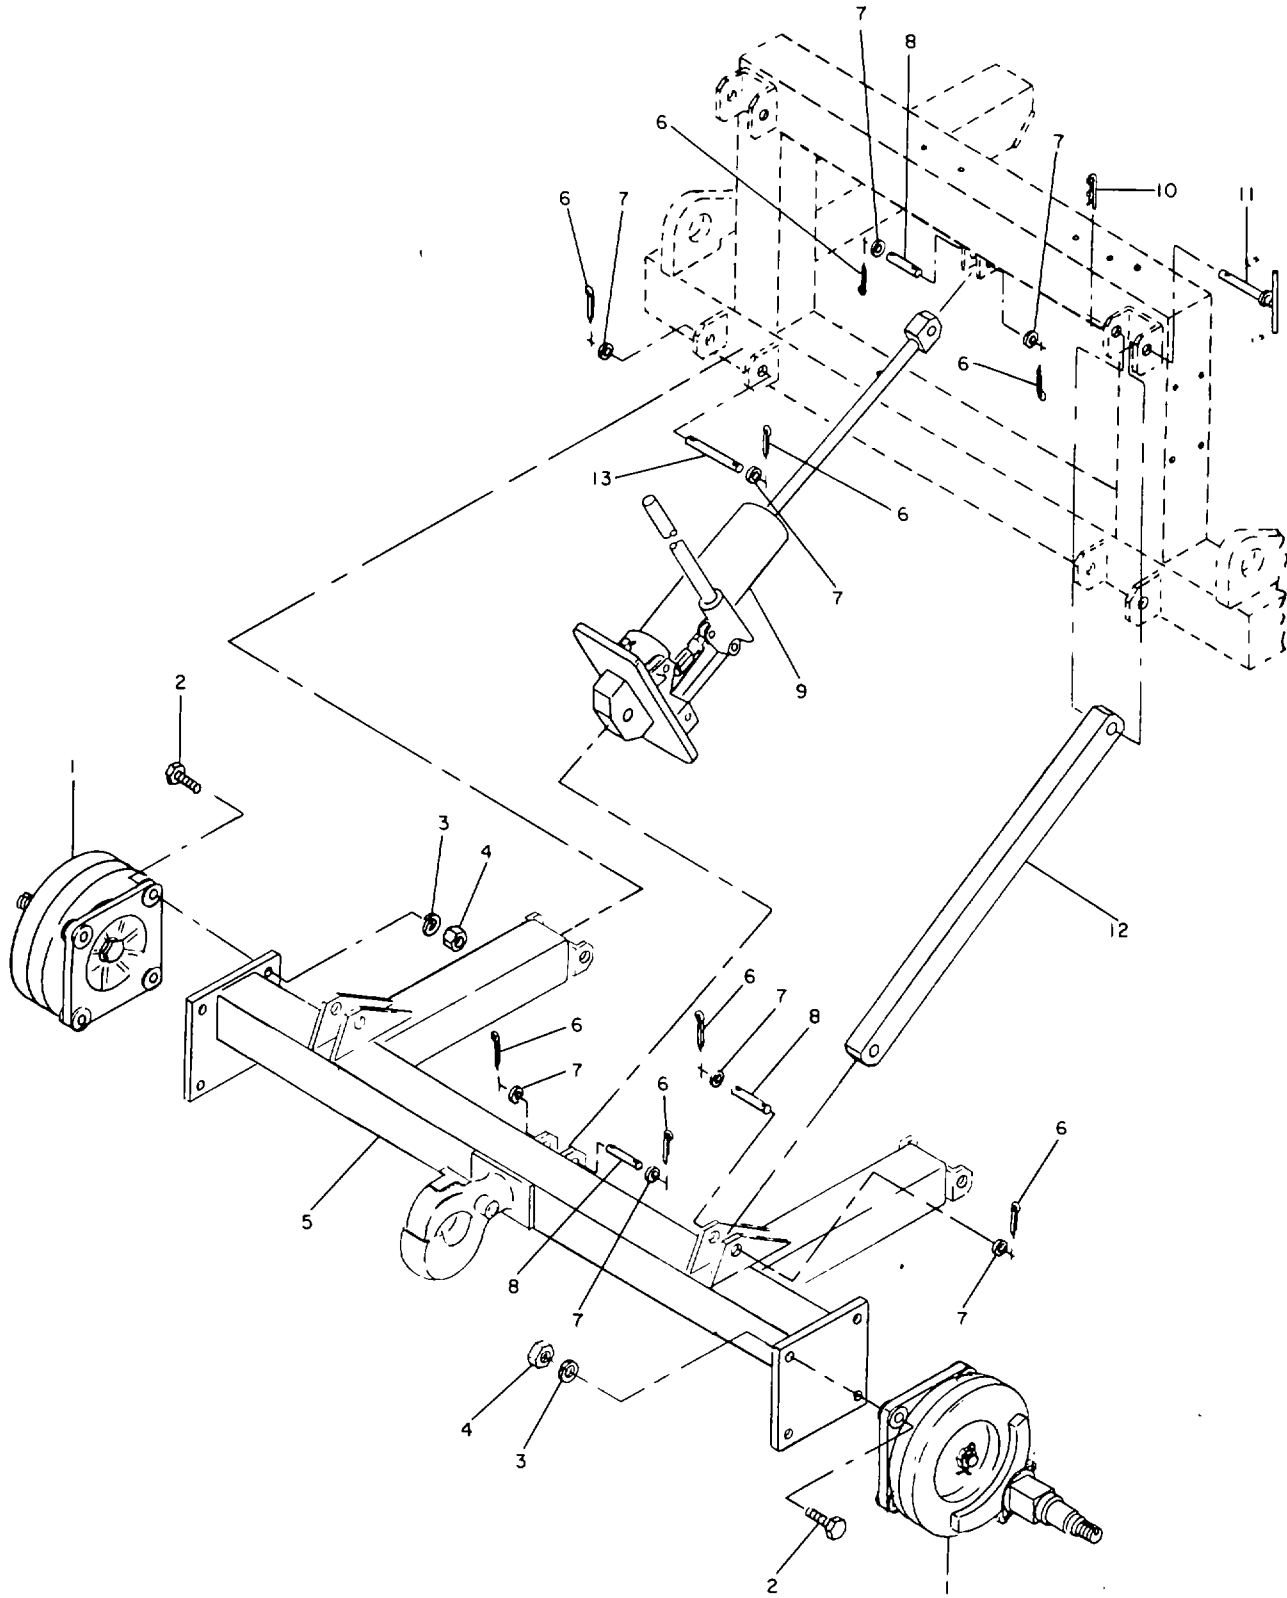
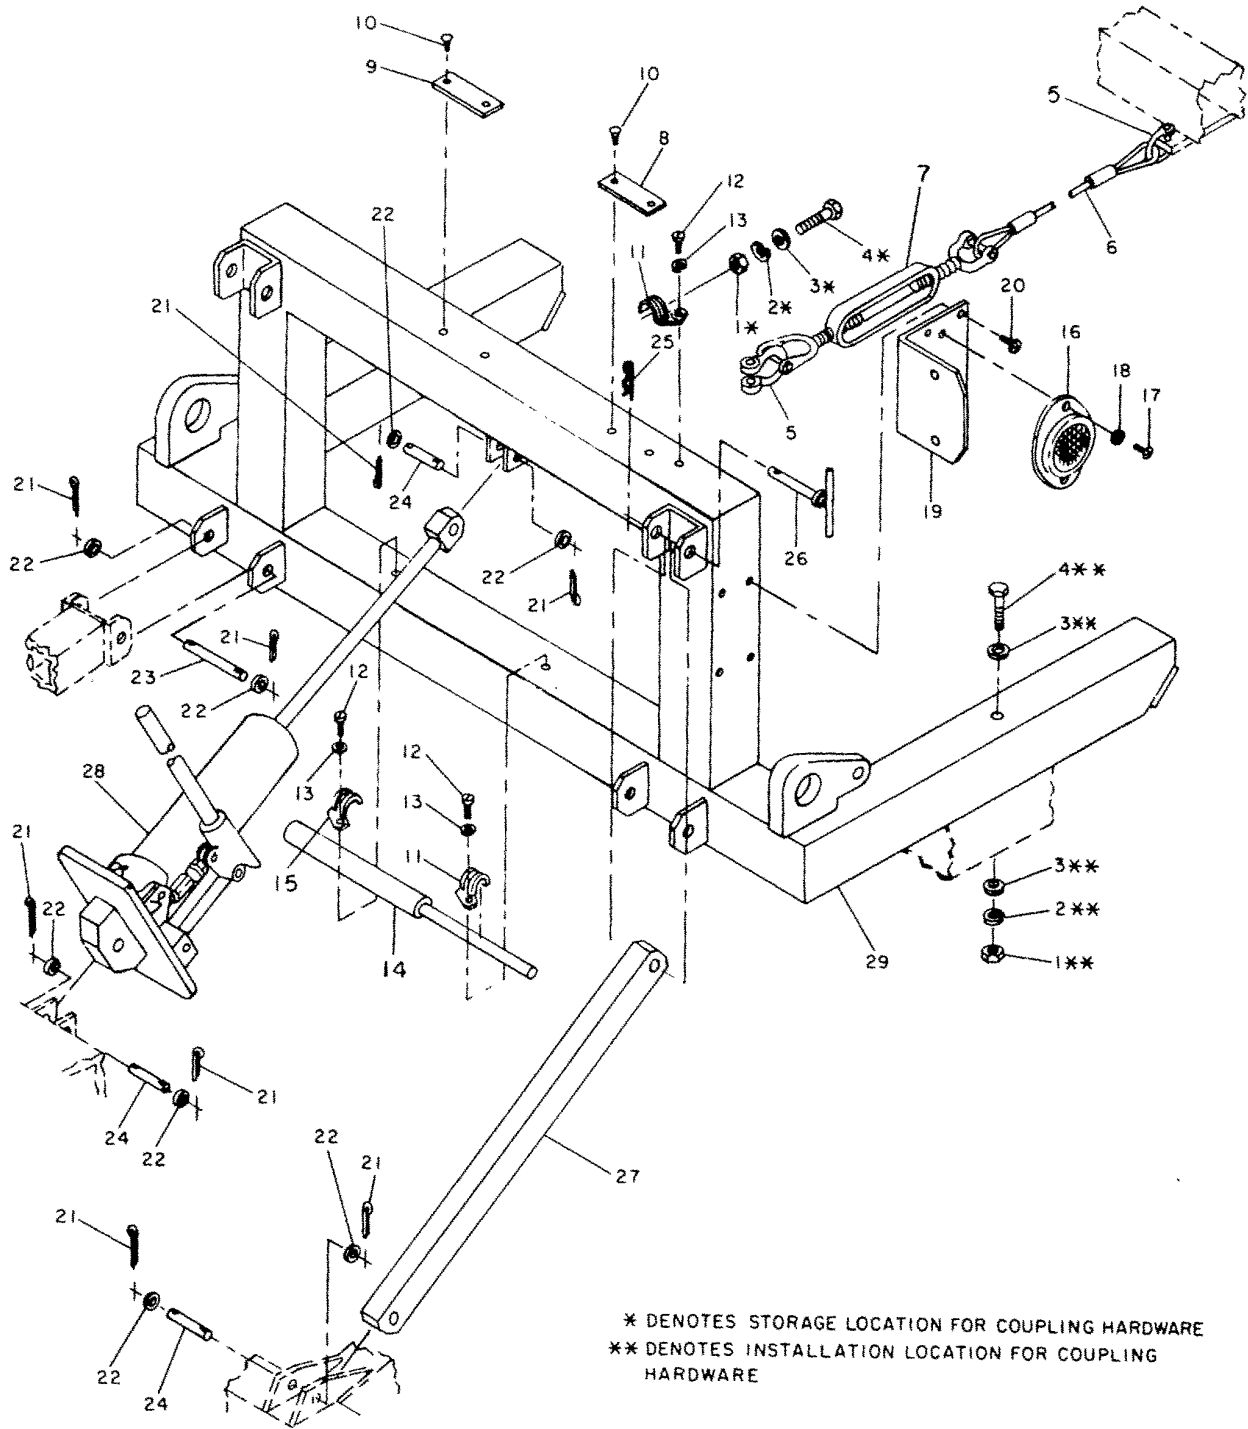

Figure 4-4. Rear axle assembly
Figure 4-6. Transporter Suspension frame
- (1) Remove hex head screws (2, fig 4-4), lockwashers (3), hex nuts (4) and banjo suspension spring assemblies (1).
- (2) Remove cotter pins (6), flat washers (7), straight pins (8), and hydraulic jack (9).
- (3) Remove cotter hairpins (10), lockout strut pins (11), cotter pins (6), flat washers (7), straight pins (8), and lockout struts (12).
- (4) Remove remaining cotter pins (6), remaining flat washers (7), straight pins (13), and transporter suspension frame.
Legend for fig. 4-4:
- (1) Disengage hydraulic jack (28, fig. 4-6) from wheel suspension frame (fig. 4-4 or 4-9) and transporter suspension frame (29, fig. 4-6) by removing cotter pin (21) and flat washer (22) from one side of straight pin (24). If necessary, use a hammer to remove straight pin (24).
- (2) Disengage lockout struts (27) from wheel suspension frame (fig. 4-4 or 4-9) by removing cotter pin and flat washer from one side of straight pin. If necessary, use a hammer to remove straight pin.
- (3) Disengage lockout struts (27, fig. 4-6) from transporter suspension frame (29) by removing cotter hairpin (25) and lockout strut pin (26).
- (4) Disengage transporter suspension frame (29) from wheel suspension frame tube bracket by removing cotter pin (21) and flat washer (22) from one side of each straight pin (23). If necessary, use a hammer to remove straight pin (23).
- (5) If necessary, remove cable assembly (6) from chain shackle (5) and turnbuckle (7).
- (6) If necessary, remove nuts (1), lockwashers (2), flat washers (3), and hex head bolts (4) to disengage front and rear transporter suspension frames (29).
Legend for fig. 4-6: